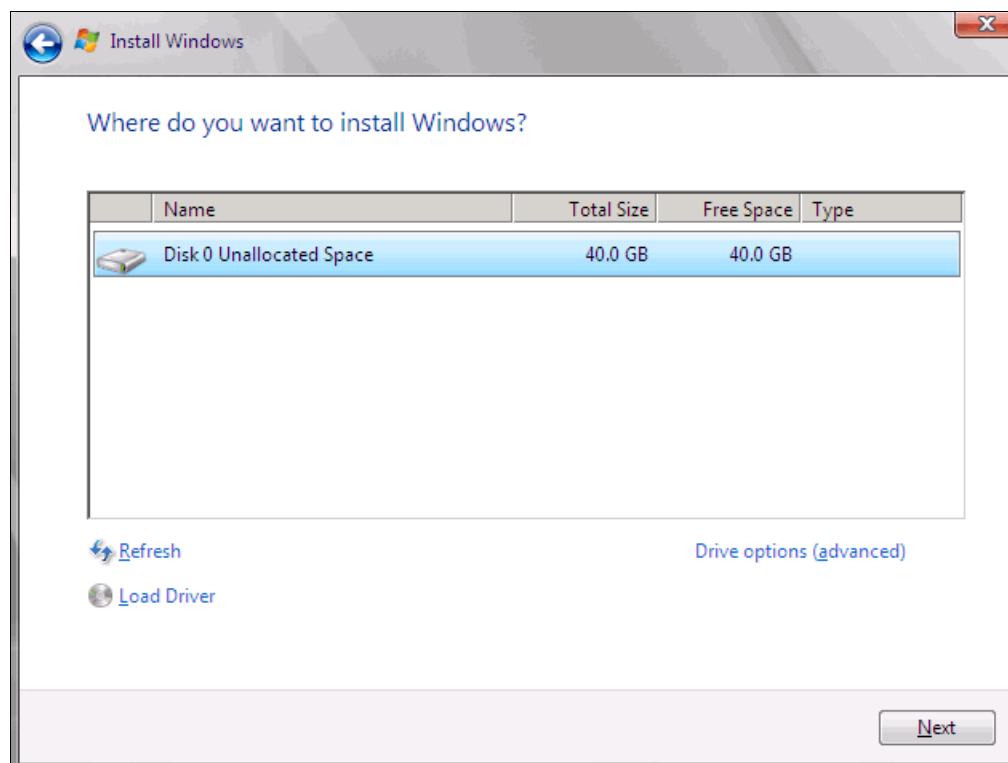

Figure 9-221 Selecting the disk to install on
10. In the “Where do you want to install Windows” panel (Figure 9-221), when you see your LUN, select the disk, and then click **Next**.